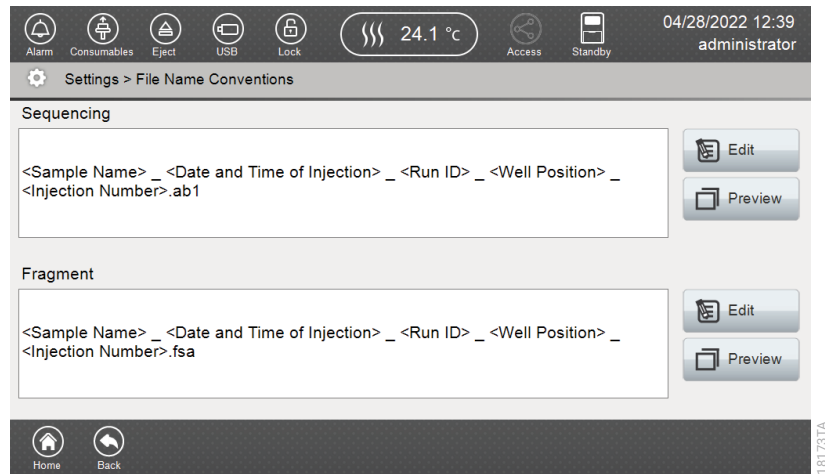

Figure 173. 'File Name Conventions' screen.
8. Select **Preview** in the 'File Name Conventions' screen (Figure 173) to verify the edits made to the attributes.